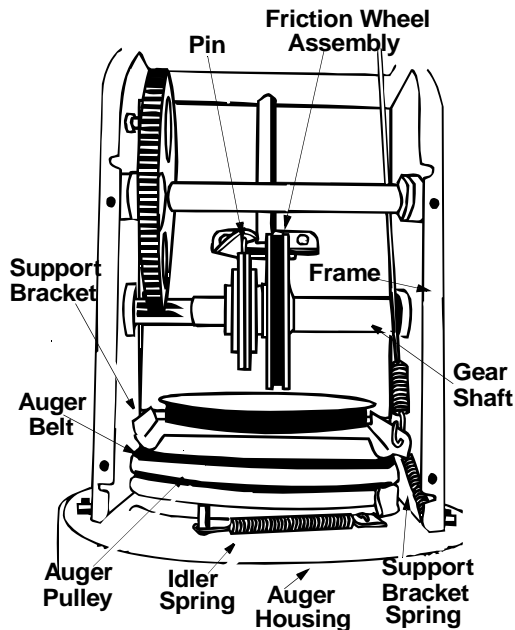

Figure 27
- Unhook the idler spring from the hex bolt on the auger housing. See Figure 27.
- Slide friction wheel assembly back onto the gear shaft. Be sure to align the pin on the shift rod with hole in the friction wheel assembly. See Figure 27.